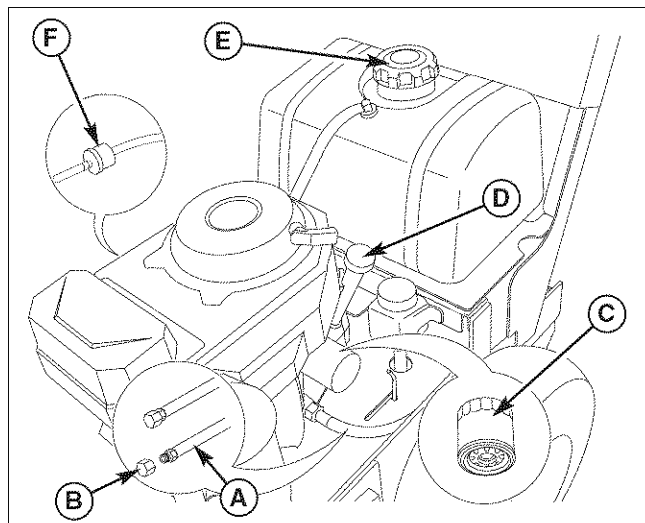

Figure 18. Engine Oil Drain
1. Remove the fuel cap (E, Figure 18).